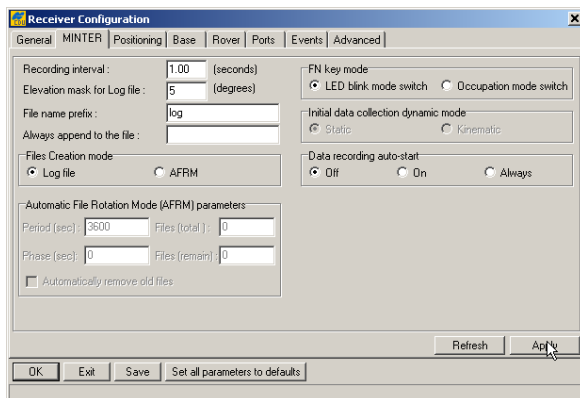

Figure 3-31. Receiver Configuration – MINTER Tab
5. Click **Configuration ► Receiver**, and then click the **MINTER** tab. Set the following parameters, and click **Apply** (Figure 3-31). See the following pages for descriptions of these parameters.